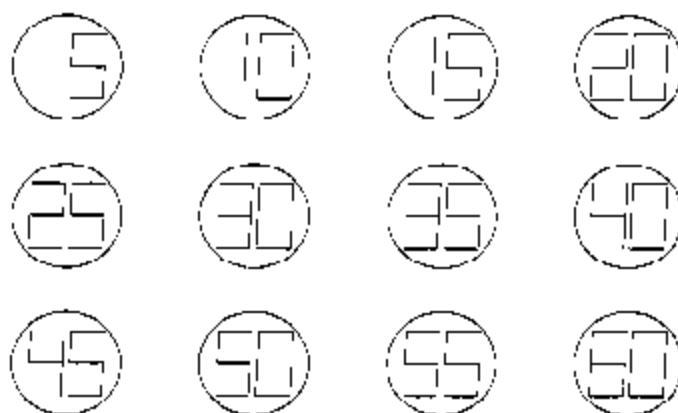

figure 21
- The display will sequence through the Warn Set Point Levels beginning with "5" and increasing in increments of 5 up to "60" and then back to "5" (figure 21),
- Finally, the Alarm Set Point option will be displayed as in figure 21 (cannot be lower than the Warn set point).